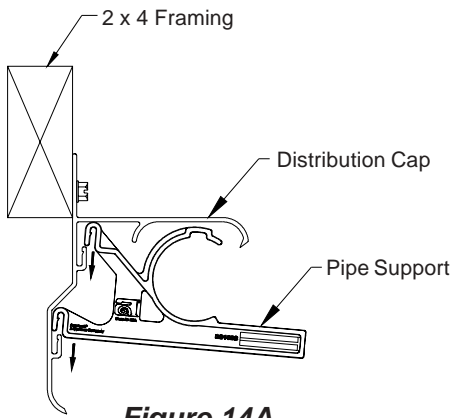
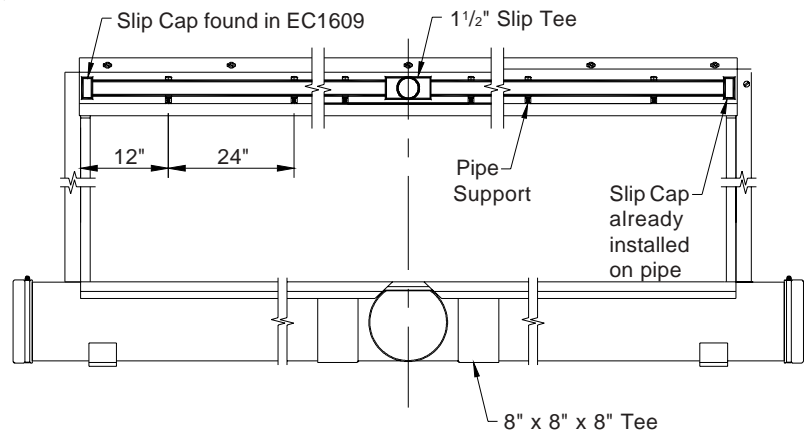
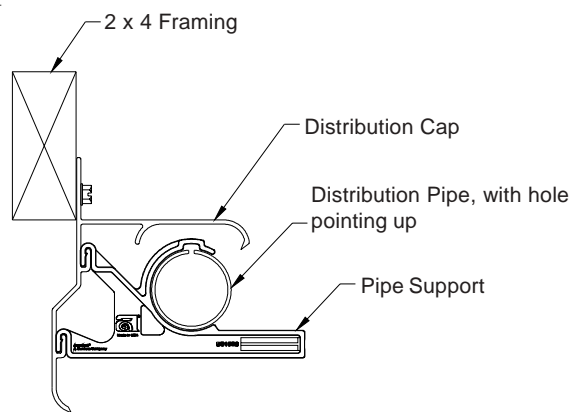

Figure 14A
Figure 14B
Figure 14C
- 18) Pipe support snaps onto distribution cap, start 12" from end and space every 24". **See Figure 14A.** Five (5) supports per 10' section of distribution cap. Pipe supports can be slid back and forth for proper alignment.
- 20) Find the 1½" Slip Tee, it will be mounted directly above the 8" x 8" x 8" Tee (centered), then working each way from the 1½" Tee, slide pipe supports in distribution cap, to align. **See Figure 14A & 14B.** The section of pipe with the slip cap will go on one end of the system and the slip cap found in the EC1609 Tank Kit will go on the other end. For systems longer than 12', connect sections of pipe together keeping holes aligned. **See Figure 14B.** Position pipe on pipe supports. Rotate pipe so that holes are straight upward (12 o'clock). **See Figure 14C.**